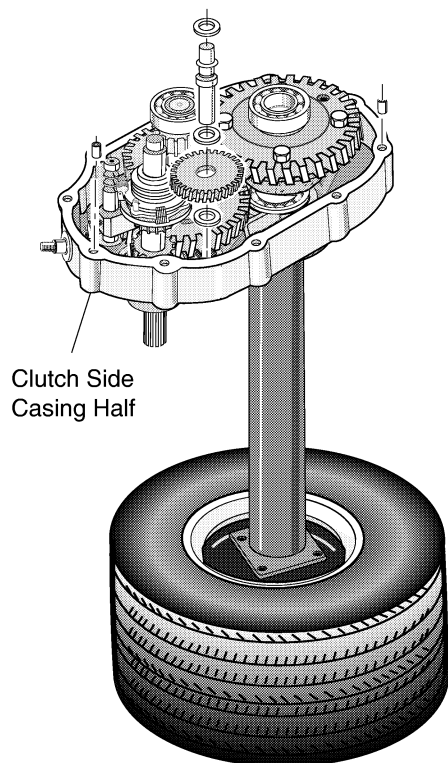

Fig. C-19 Input Shaft Bearing and Governor Fork Assembly
1. Position the spacer, on the shaft boss with the machined surface facing up (Ref Fig. C-19 on page C-8).